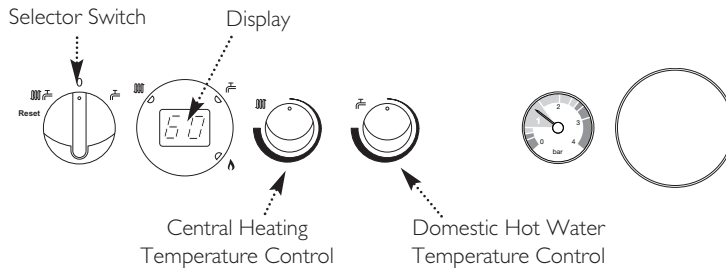

Fig. 38
6. With the boiler operating in the maximum rate condition check that the operational (working) gas pressure at the inlet gas pressure test point (Fig. 38) is in accordance with B.S. 6798 & B.S. 6891.